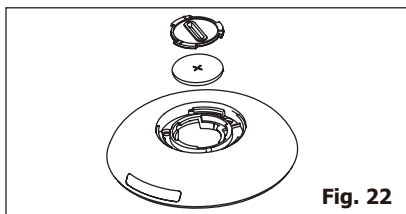

Fig. 22
- 3.** Use the same way to open the protecting cover inside and take out the battery.(Fig.22)